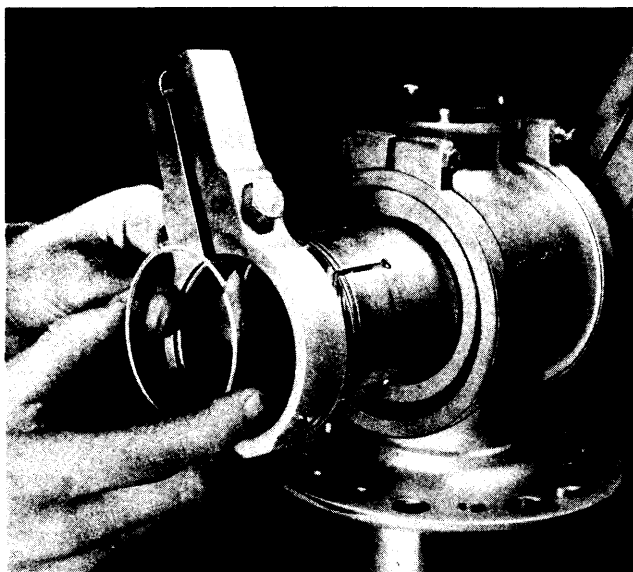

Figure 13. Removing Counterweight Arm
g. COUNTERWEIGHT ARMS. (See figure 13.)—Push the counterweight arm back on the flange and remove the round snap ring from the groove in the end of the flange; then remove the counterweight arm.